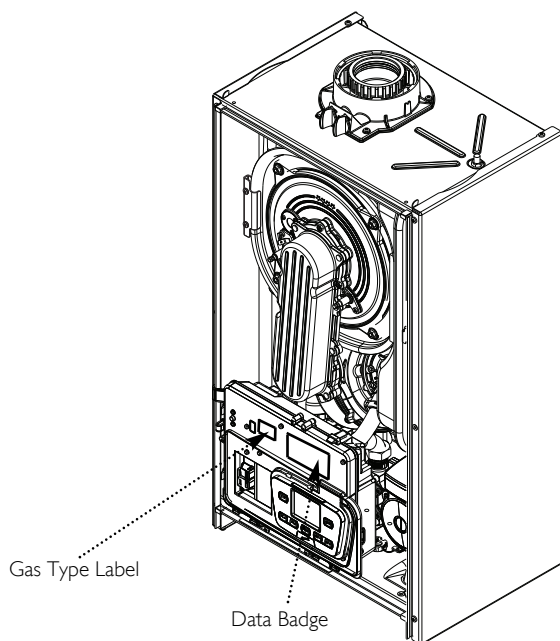

Fig. 2
5. The boiler data badge gives details of the model, serial number and Gas Council number and is situated on the control box. It is visible when the case front panel is removed (Fig. 2).